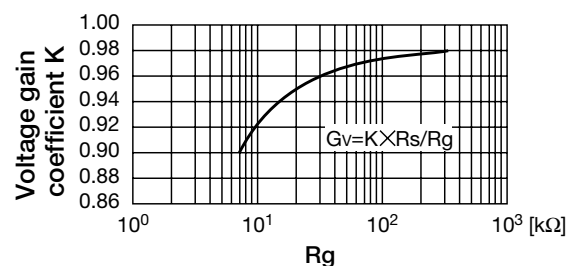

Fig.6. Voltage gain coefficient K vs  $R_g$
2.  $R_g$  and  $R_s$  are external resistances.  $R_g$  is used to set the sensitivity, with smaller resistances yielding higher sensitivity.  $R_s$  is used to set the output scale; to obtain a larger output range, choose a higher resistance.  $R_s/R_g$  is the total gain. In actuality, there is a degree of error, and so a coefficient  $K$  is included (cf. Fig. 6).
$R_s/R_g$  nearly coincides with the voltage gain, with a slight difference. This difference is represented by K, but as  $R_g$  changes K also changes. This relationship is indicated in Fig. 6.